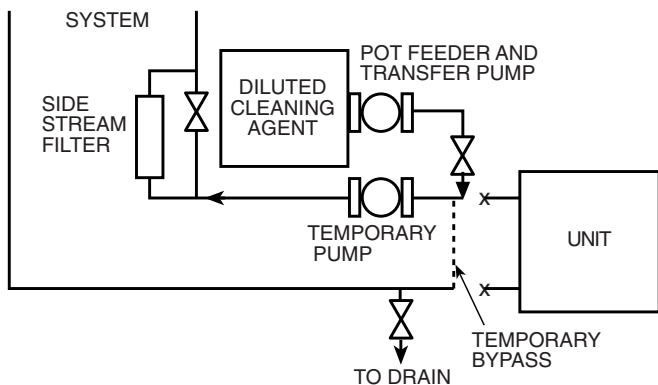

Fig. 24 — Cleaning Process Using Side Stream Filter
- c. A side stream filter is recommended (see Fig. 24) during the cleaning process. Filter side flow rate should be enough to filter the entire water volume every 3 to 4 hours. Change filters as often as necessary during the cleaning process.